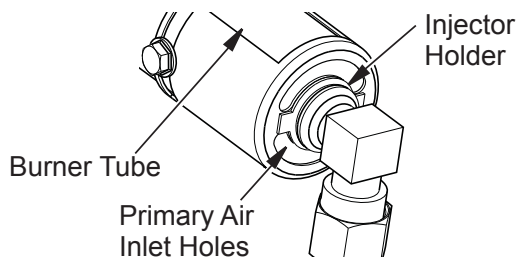

Figure 38 - Injector Holder On Outlet Burner Tube
2. Inspect burner, pilot and primary air inlet holes on injector holder for dust and dirt (see **Figure 38, Page 30**).